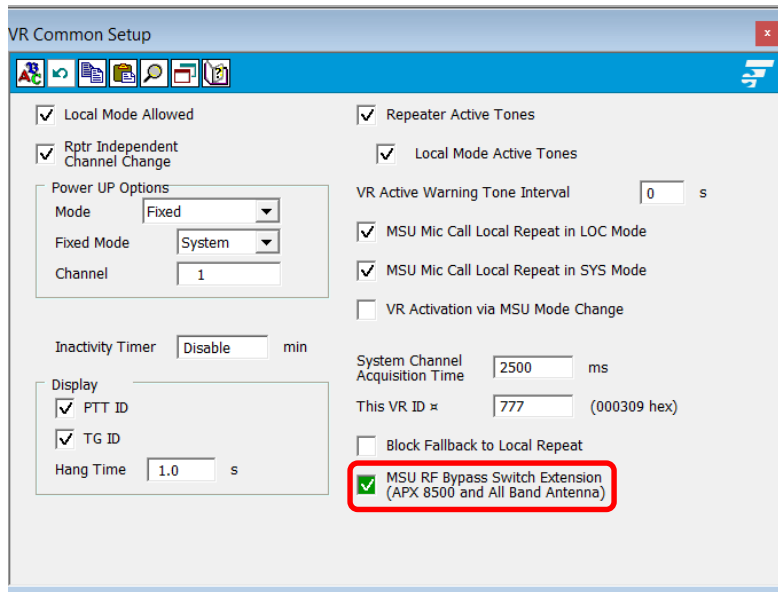

Figure 3: RF Bypass Switch Extension Configuration
- **VR Common Setup**→ **MSU RF Bypass Switch Extension (APX 8500 and All Band Antenna)**= checked (enabled) (See:**Figure 3: RF Bypass Switch Extension Configuration**)